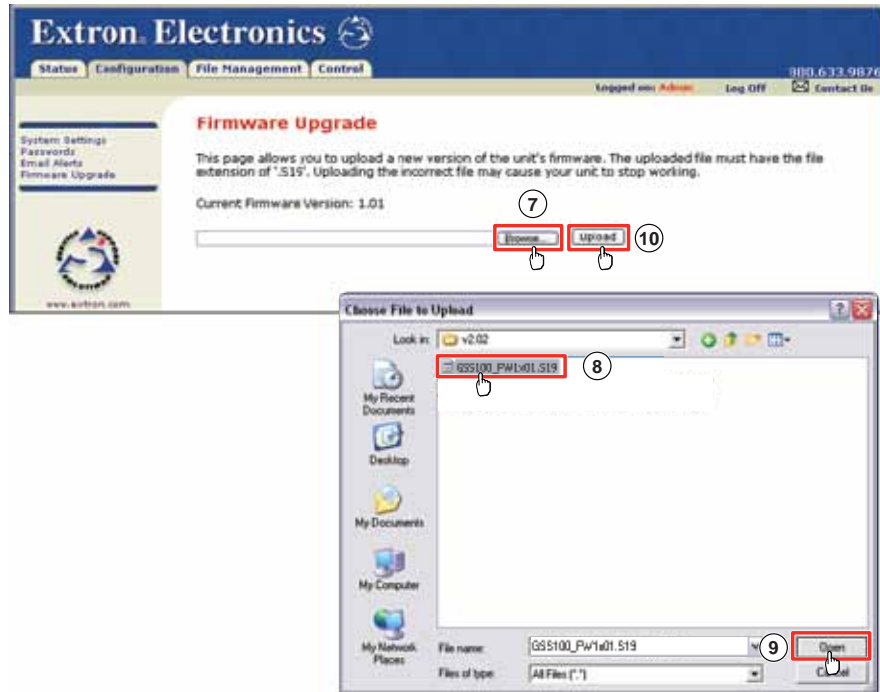

Figure 26. Firmware Upgrade
- Click the **Firmware Upgrade** link (see figure 26).